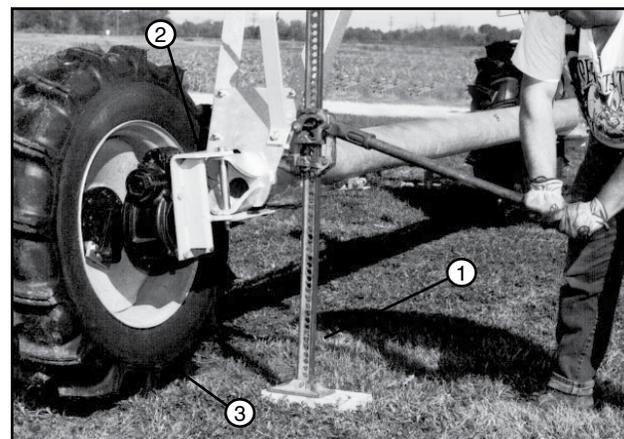

Figure 27-2 1. Jack
2. The wheels on each drive unit must be turned into the tow position. Use a jack to lift one side of the drive unit until the tire is off of the ground. See figure 27-2.